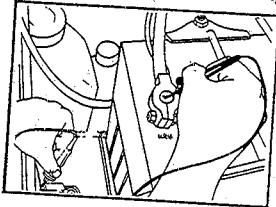

Fig 3
4. Connect the test leads to the device or circuit being measured. (Fig. 3)